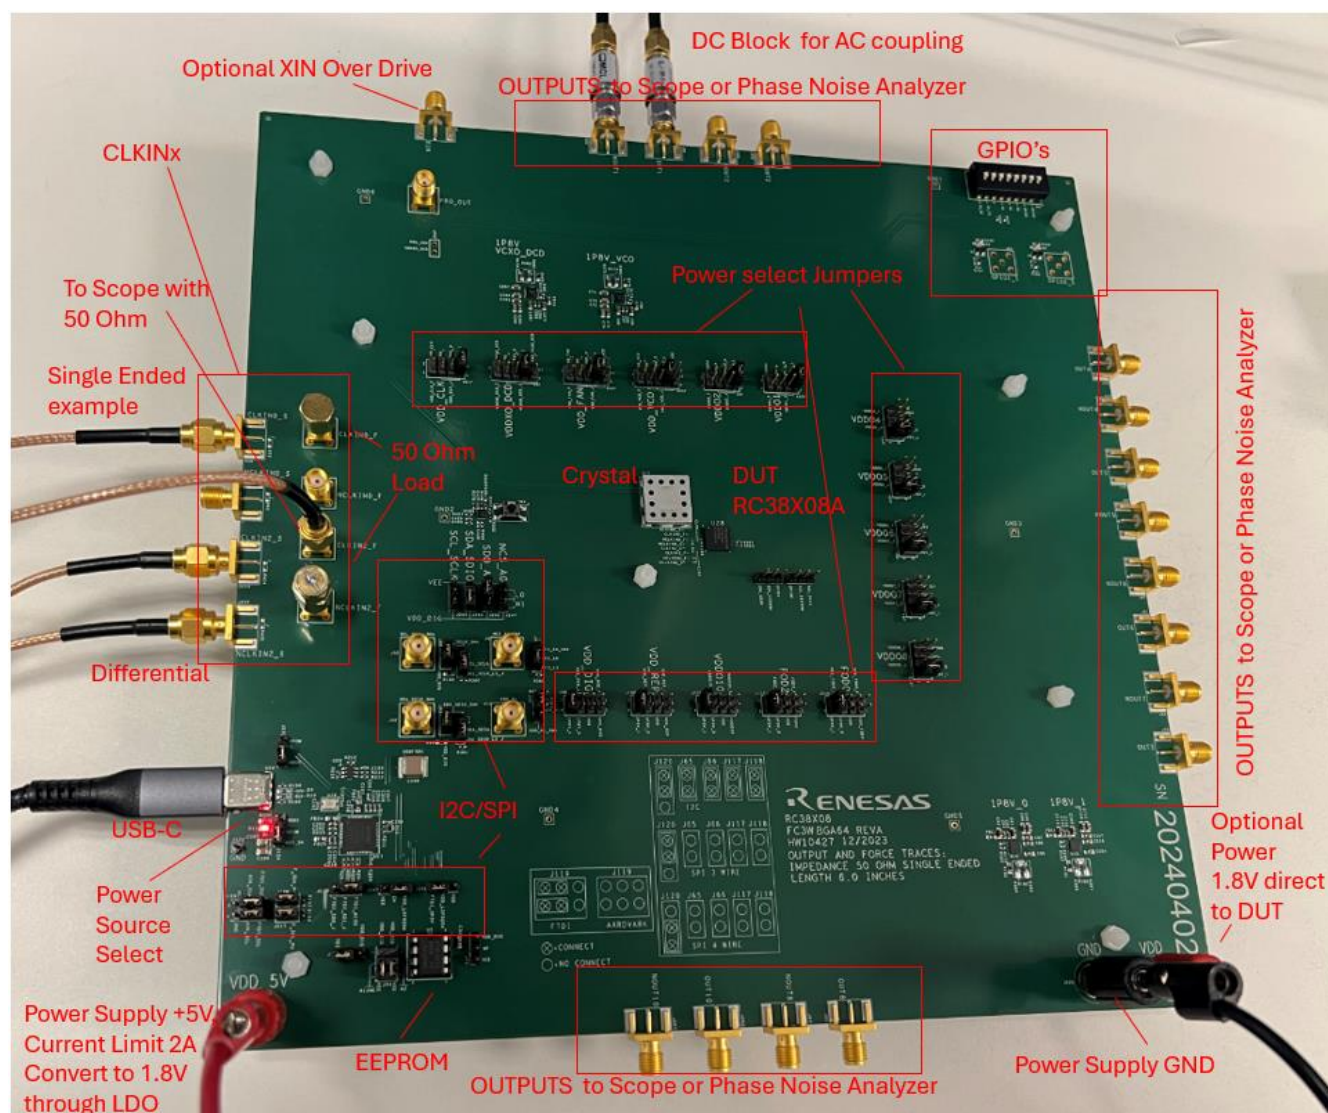

Figure 2. Evaluation Board – General Setup
The following sections describe the crystal, input clock, serial, GPIO, and output and power functions used for setting up device testing. The jumper setup example is shown in Figure 2.
- **Power Supply** – Use 5V_VDD with on-board LDO to generate 1.8V power rail. See Figure 2 for power select jumper settings (the J90 V_{DD} = 1.8V setting is not used this example).
- **CLKx Inputs** – The CLKx inputs are AC-coupled by default and can accept either differential input or single-ended input. The **CLKx** input has no on-board 50Ω termination. If the signal source, for example, lab equipment requires 50Ω to GND termination at the receiver, the Sense connectors are provided for lab equipment monitoring (e.g., scope with 50Ω input for monitoring the CLK input signal). If the sense connector is not used, then a dummy 50Ω load is required (see Figure 2) at the sense. The CLK0 input shows a 1.8V LVCMOS single-ended input. A 50Ω dummy load is provided at the Sense. The CLK2 input shows a differential input. Once the Sense through Coax cable is connected to a scope with 50Ω input channel, the other Sense can provide a 50-Ω dummy loaded.